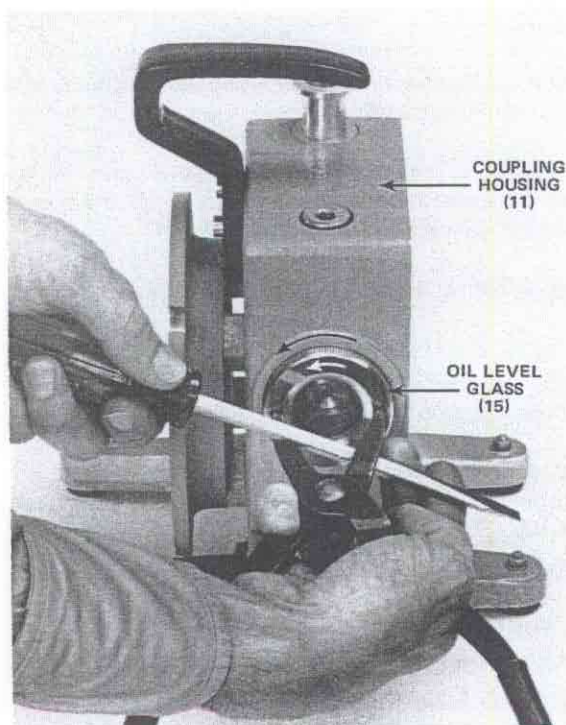

Figure 5-16. Removing the Oil Level Glass (15) From the Coupling Housing (D2A Pump Model Shown)
**Method (2)** — Place the nose ends of a large pair of snap ring pliers into the two holes in the assembly (15); insert a screwdriver or small bar between the nose ends of the snap ring pliers; use the screwdriver or bar to force the pliers and the assembly to turn counterclockwise; unscrew the assembly from the coupling housing (see Figure 5-16).